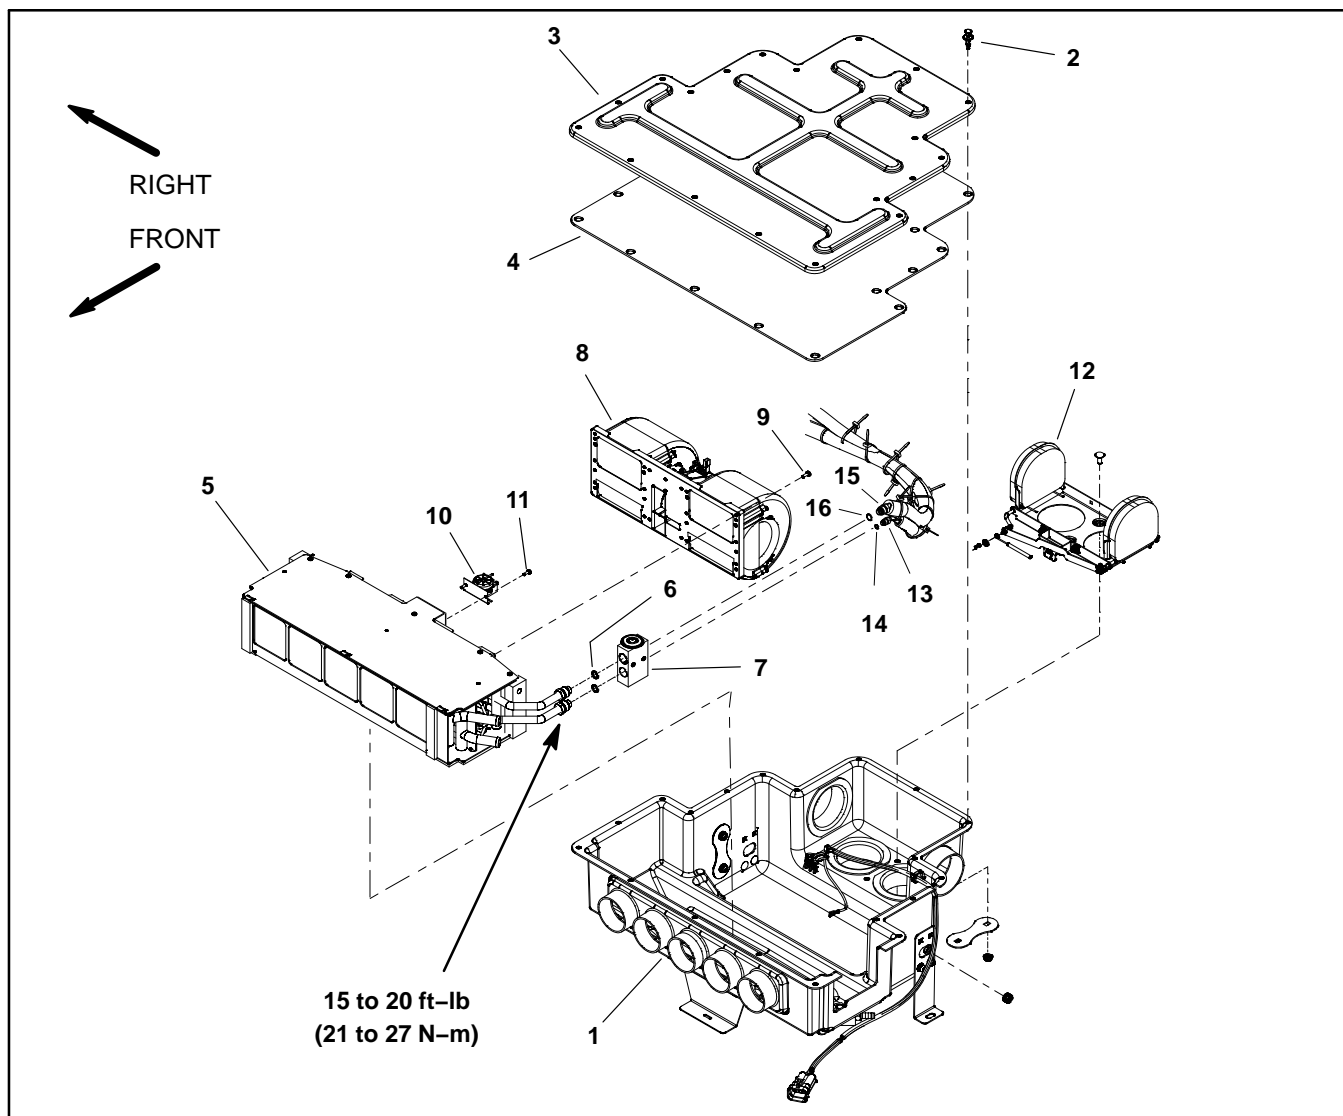

Figure 14
NOTE: The blower fan can be removed and installed with the mixing box (item 1 in Figure 14) attached to the cab headliner.
Removal (Fig. 14)
Installation (Fig. 14)